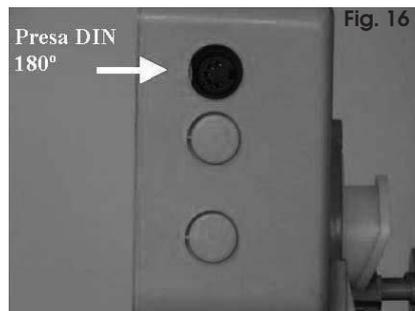

Fig. 16
- The controller is inhibited. If you use the DIN socket (Fig. 16), verify that inside the connector there are no short-circuited terminals.
Fig. 16 shows the installation of a liter counter sensor on a valve model V132, when the cable is mounted on the controller case.
Fig. 16 shows the DIN 180° socket, where a liter counter sensor can be connected.